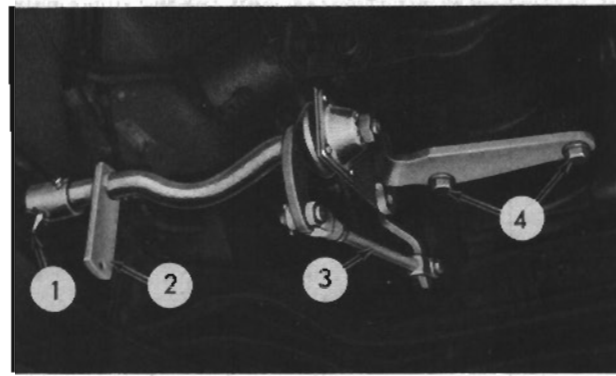

FIG. 16
Disconnect the clutch pedal free travel adjusting rod (3, Fig. 16) at the operating shaft inner lever. If equipped with a Hill Holder, disconnect the Hill Holder operating rod from the operating shaft outer lever (2). Remove the operating shaft sleeve pin (1). Remove the support bracket cap screws (4). Lower the support bracket, slip the operating shaft sleeve off the pedal shaft, and remove the assembly.